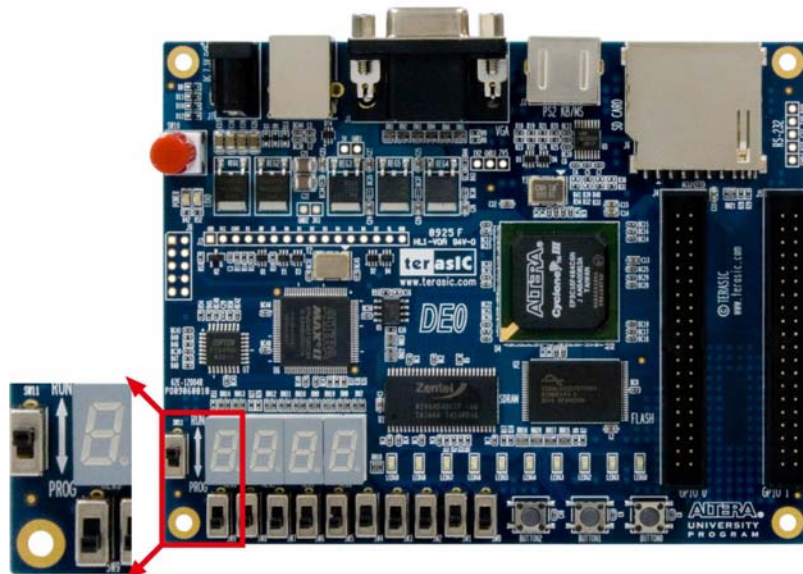

Figure 4-4. The RUN/PROG switch (SW11) is set in AS mode
- Configure the JTAG programming circuit by setting the RUN/PROG switch (see Figure 4-4) to the PROG position.